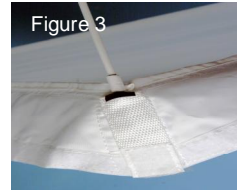

Figure 3
**Step 3.** Now locate the pockets on each corner of the Front Diffuser Panel (pockets are located on side with thin velcro trim). Insert a Frame Rod into one of the corner pockets (Figure 3).